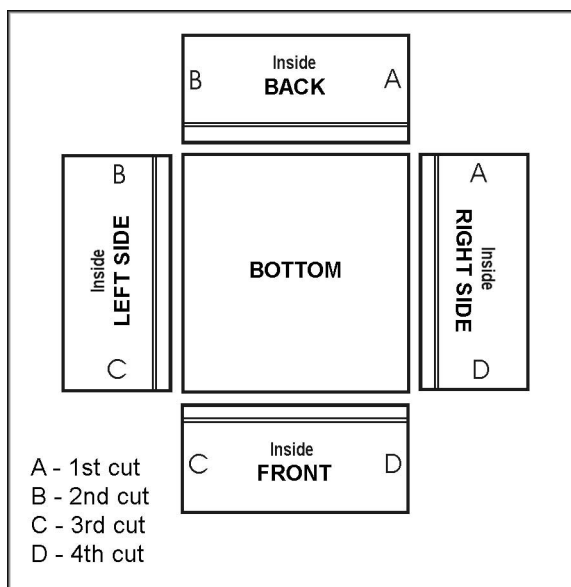

Figure 28
No matter the project, prevent mistakes by laying out the pieces beforehand according to how they will be assembled. Place them with the inside facing up, and label the mating edges, as shown in Figure 28.
14. Make the cut, then continue the dovetailing procedure with the **FRONT** piece, making cuts "C" and "D" (Figure 28) until all four joints of the drawer have been cut.